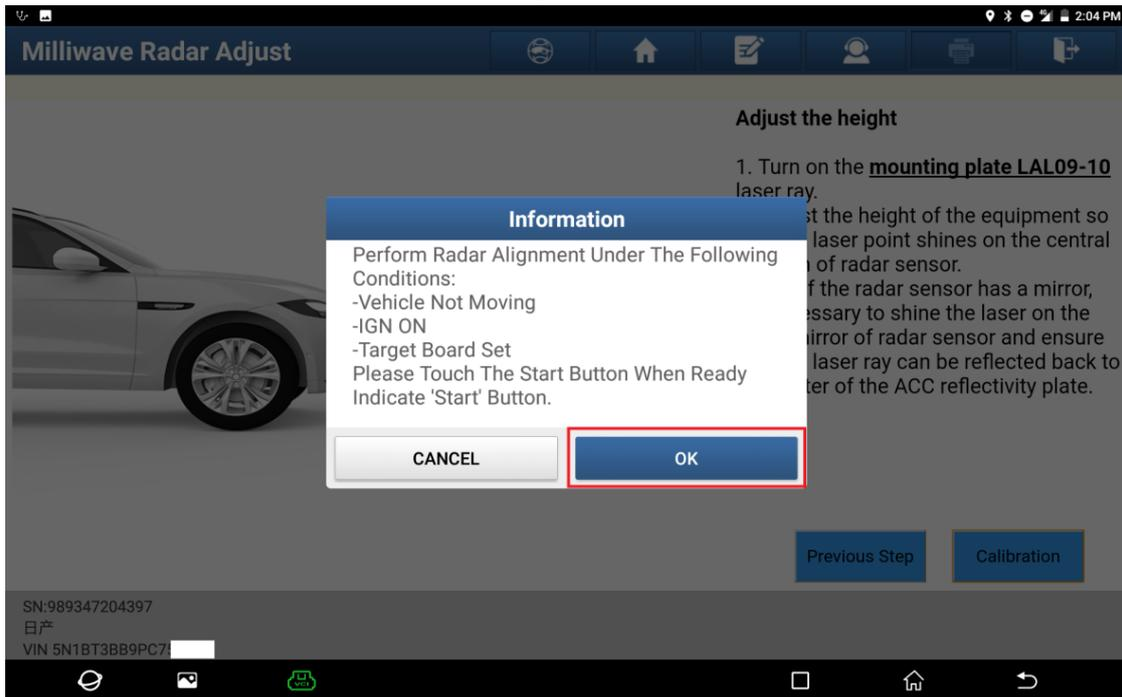

Figure 17
15. Click [Calibration]. The prompt information is displayed. If the conditions are met, click OK (as shown in Figure 17).